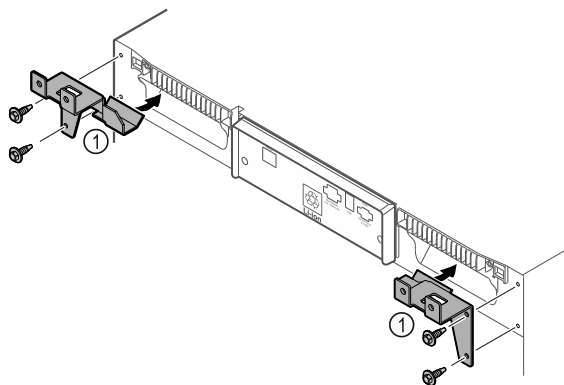

Fig. 9
- ▶ Mount retaining parts Fig. 9 (1) on the appliance using the screws supplied.